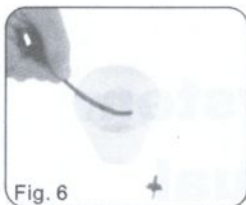

Fig. 6
1. All the fittings in this set simply push on to the vinyl pipe. To assist this procedure we suggest you use a cup of hot water to soften the end of the pipe before attempting to push a fitting on to the pipe. This is especially useful on cold days. When using a cup of hot water be careful not to scold yourself when dipping the pipe into the water. See Fig. 6